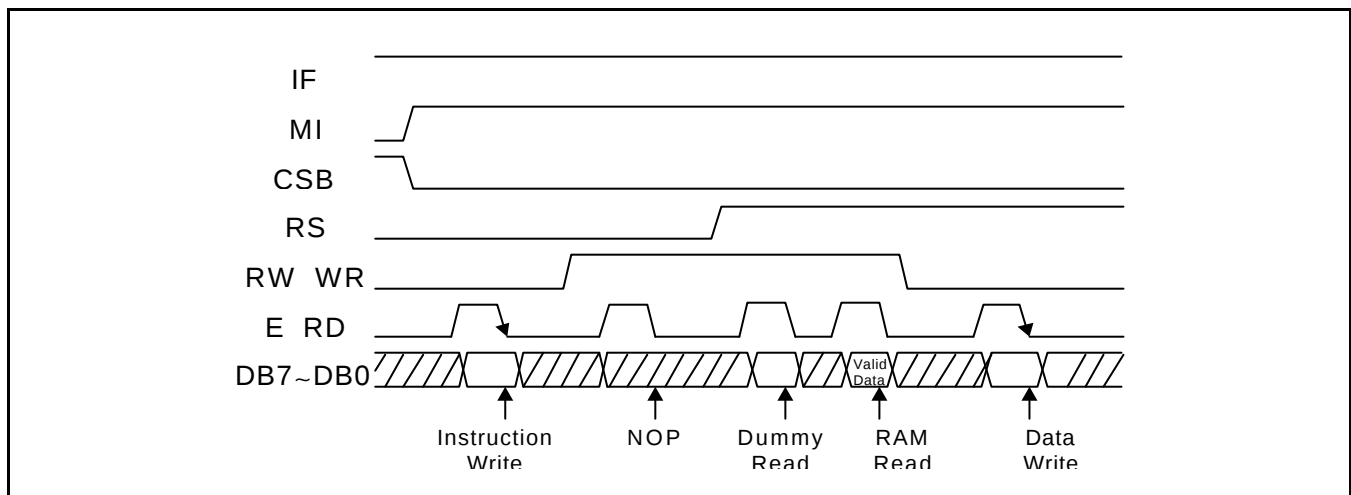
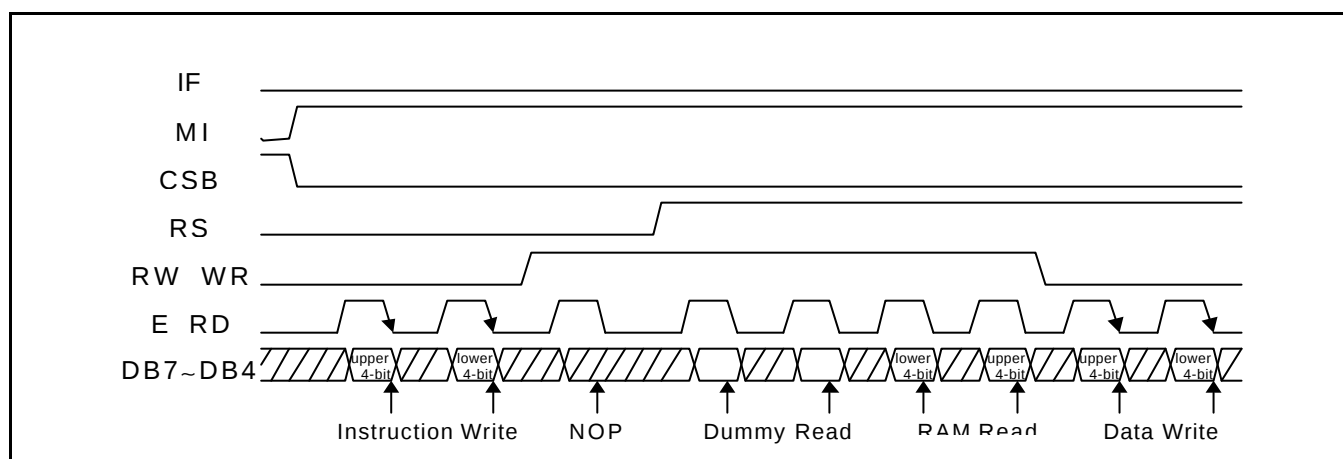

Figure 3. Timing Diagram of 8-bit Parallel Bus Mode Data Transfer (68-series MPU Mode)
Figure 5. Timing Diagram of 4-bit Parallel Bus Mode Data Transfer (68-series MPU Mode)
During reading operation, 8-bit register, output data register (OR) is used. The output data register (OR) is used as temporary data storage place for being read from DDRAM / CGRAM / ICONRAM and one of these RAMs is selected by RAM address setting instruction. After RAM address setting, first reading is a dummy cycle in 8-bit bus mode (figure 3, 4). The valid data comes from second reading. In 4bit bus mode, after RAM address setting, first and second reading are dummy cycles (figure 5, 6). The valid data comes from third reading. The dummy read make the address counter (AC) increased by 1. So it is recommended to set address again before writing. The instruction read cycle is not supported and it is regarded as a no operation cycle.